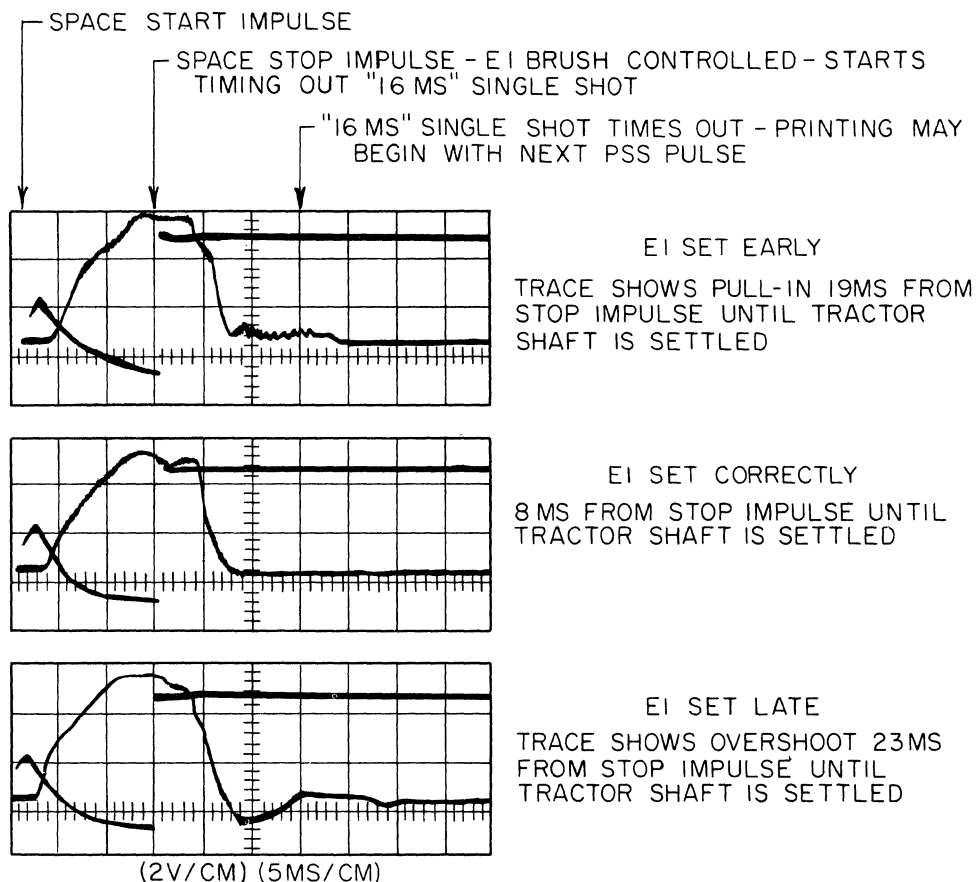

FIG. 14 EI BRUSH ADJUSTMENTS FOR TRIPLE SPACE
4. Shift emitter adjustment arm to obtain least time to settle tractor shaft movement shown in Fig. 14